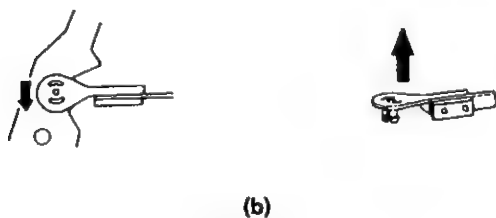

Figure 1-20.
4. Press the tension band in the direction of the arrow for removal (See Figure 1-20(b)).